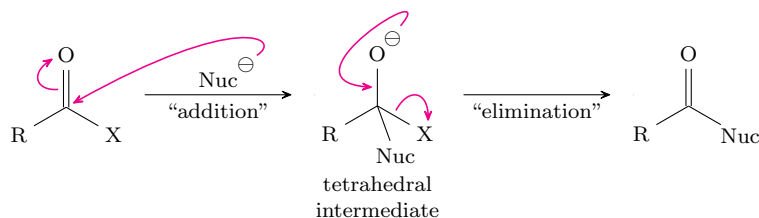

Figure 4.22: Mechanism of a (neutral) acyl transfer reaction.
- Thus, the general addition-elimination mechanism (Figure 4.22) will proceed very slowly here.
- This is much more similar to the general mechanism (Figure 4.22): The starting material undergoes addition by hydroxide, followed by subsequent elimination.^[6]